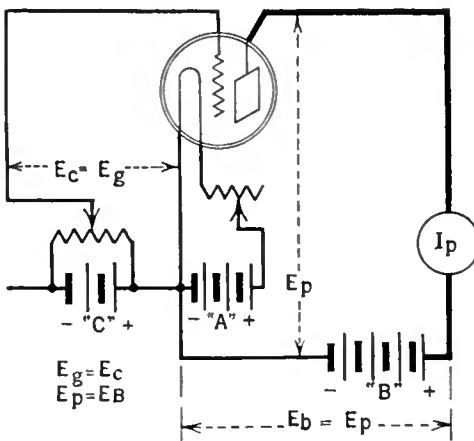
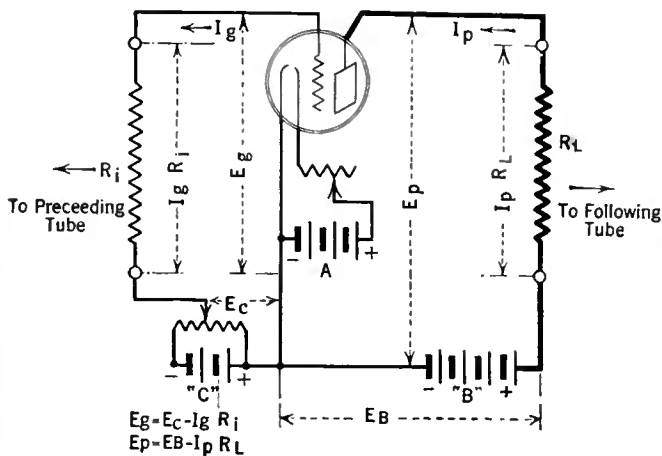
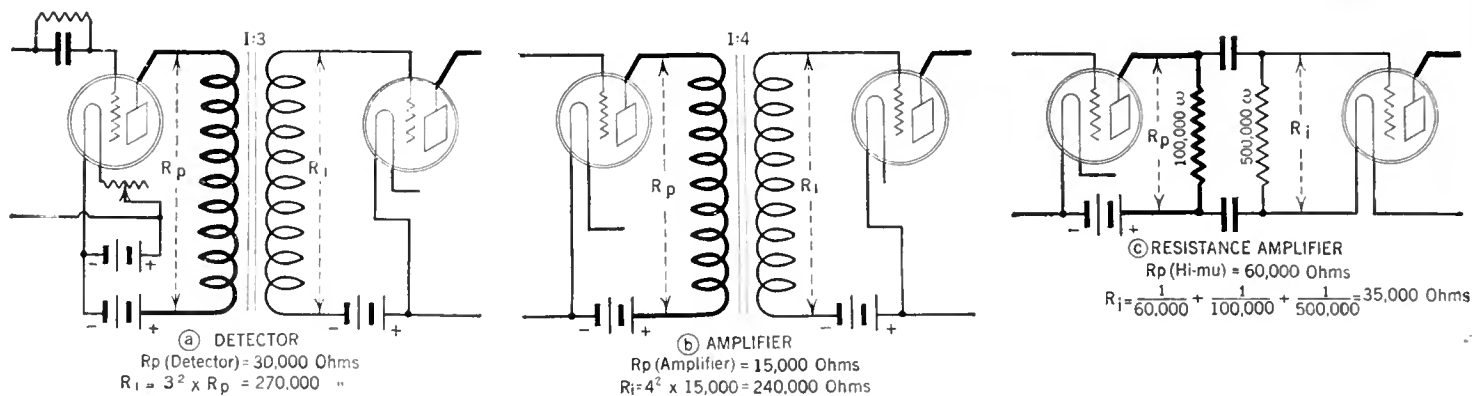
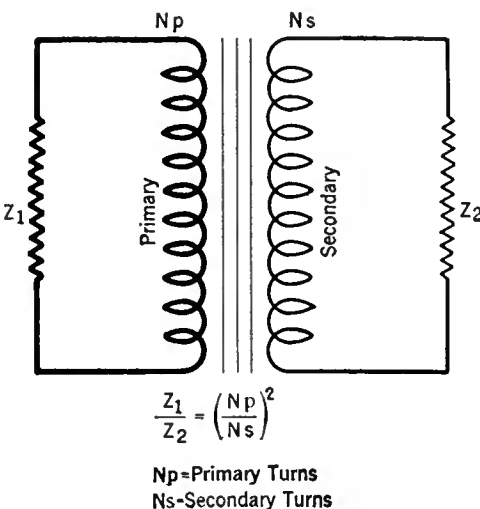

FIG. 1
FIG. 3
FIG. 4
FIG. 5
ASIDE from the tube and its accessory batteries, all that is necessary to measure static characteristics of tubes, which show in the form of curves the relations between grid, plate, and filament voltages and the corresponding currents, is a good voltmeter of double range, 0-10 and 0-100 volts, and a good milliammeter, and any one in his home laboratory can have many hours of enjoyment studying tubes by means of these instruments. With such apparatus diagrammatically represented in Fig. 1, let us carry out the following procedure:
Therefore, if we insert into the grid and plate circuits of the tube under test, a resistance approximating the impedance into which the tube normally looks we shall have the conditions of test more nearly like those occurring in practice. Fig. 3 contrasted with Fig. 1 shows these additions, and Fig. 4 the method of calculating the input and output resistance. The tube normally looks back into the output impedance of a similar tube which is "stepped up" by the square of the turn ratio of the connecting transformer. Fig. 5 shows how two differing impedances may be coupled together by means of a transformer. In this case Z_1 may be the output impedance of a semi-power tube and Z_2 the impedance of a loud speaker. If the turn ratio of the transformer obeys the formula
about 30,000 ohms—and coupled to it by means of a 3:1 ratio transformer, the tube looks back into approximately $30,000 \times (3)^2$ or $30,000 \times 9 = 270,000$ ohms. If the tube is the second of a two- or three-stage resistance amplifier employing high- μ tubes, the tube looks back into three impedances in parallel as shown in Fig. 4. In the case of the last tube in a set which works into the loud speaker, its output impedance will be approximately matched by the impedance of the
In Fig. 3 R_L and R_i represent the combined impedance of the tube and the connecting apparatus looking away from the tube under test.
Under these conditions, shown in Fig. 3, somewhat different curves result when one plots plate current against change in grid volts. In this case the plate voltage is not the B battery voltage but is less by the drop in the load resistance, and the voltage actually applied to the grid is not the same as the C battery but is less by the drop in the input resistance—when the grid goes positive.
Consideration of the curves in Fig. 5 and those in *Popular Radio* already mentioned show that the greater the impedance in the plate circuit the straighter will be the characteristic. Some loud speakers have very little impedance at low frequencies so that the curve worked over is not straight but curved and a peculiar distortion results when bass viols, or kettle drums are played. The remedy lies in a lower impedance tube, say one of 4000 ohms, and some tube manufacturers are making preparations to supply such tubes. They will necessarily have a low amplification factor and will draw considerable plate current but will be capable of delivering considerable power. Output transformers useful in overcoming this type of distortion are manufactured by the General Radio Company, and are designed to couple low impedance speakers of the cone type to 201-A tubes and to low impedance power tubes.
and $\frac{\mu}{\sqrt{R_p}}$ and knowing the input impedance as figured in Fig. 4 and the voltage that is being placed on the grid of an amplifier, it is a simple matter to compute the power and voltage amplification and the actual power output in watts delivered to a loud speaker. It has already been mentioned that a reasonable amount of power to require from an amplifier is .06 watts which will give a good comfortable signal from an average loud speaker of the cone type without overloading distortion.